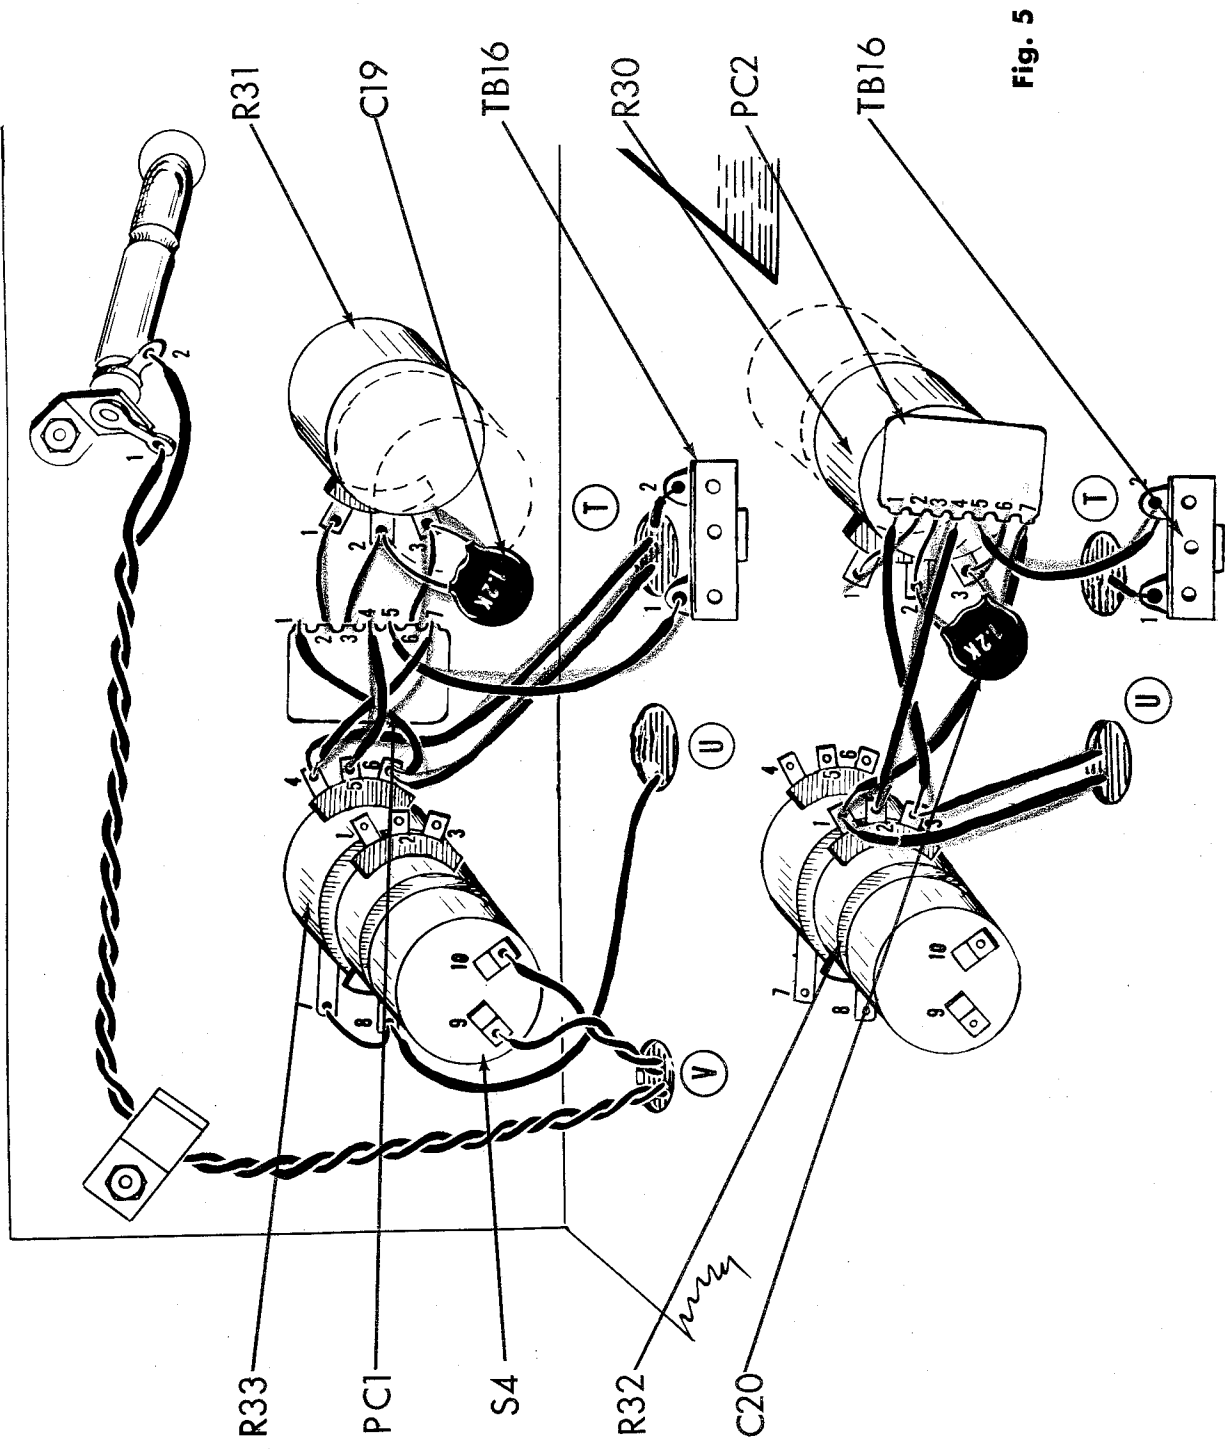

Fig. 5
1. (✓) Fig. 5. Strip the outer insulation back 1/2" on one end of a 8" piece of single conductor shielded cable. Twist the shield strands together and cut off. Strip the inner insulation back 1/4". Connect this end to R33-4 (C). On the other end of the same piece of cable, strip the outer insulation back 3/4". Twist the shield strands together. Strip the inner insulation back 1/4". Push this end of the cable through hole "T" to the bottom of the chassis.
2. (✓) Fig. 5. Connect one end of a 7" piece of brown wire to R33-6 (C). Push the other end through hole "T".
3. (✓) Fig. 5. On the printed circuit plate, PC1, cut leads #2, #3 and #6 to 1/2". Cut leads #1, #5 and #7 to 2". Cut lead #4 to 1 1/2". Connect lead #6 to R31-3 (C), lead #3 to R31-2 (C) and lead #2 to R31-1 (S1). Cover leads #1 and #7 each with a 1 3/4" piece of spaghetti. Connect lead #1 to R33-6 (S2) and lead #7 to R33-4 (S2). Cover lead #4 with a 1 1/4" piece of spaghetti and connect to R33-5 (S1). Cover lead #5 with a 1 3/4" piece of spaghetti and connect to TB16-1 (C).
4. (✓) Fig. 5. Cut both leads on a .0012 mfd (1.2K or 1200mmf) disc capacitor, C19, to 1/2". Connect from R31-2 (S2) to R31-3 (S2).
5. (✓) Fig. 5. Connect one end of a 5 1/2" piece of green wire to TB16-2 (C) Push the other end through hole "T" to the bottom of the chassis.
6. (✓) Fig. 5. Connect one end of a 10" piece of grey wire to the switch S4-9 (S1) which is mounted on the rear of the dual treble control potentiometers. Connect one end of a 14" piece of black wire to S4-10 (S1). Twist the two leads together and push the unsoldered end through hole "Y" to the bottom of the chassis.
7. (✓) Fig. 5. Cut the leads #2, #3 and #6 on printed circuit plate PC2, to 1/2". On the same printed circuit plate PC2, cut leads #1 and #7 to 2 1/4", lead #5 to 1 1/4" and lead #4 to 1 3/4". Connect lead #6 to R30-3 (C), lead #3 to R30-2 (C) and lead #2 to R30-1 (S1). Cover leads #1 and #7 each with a 2" piece of spaghetti. Connect lead #7 to R32-1 (C) and lead #1 to R32-3 (C). Cover lead #4 with a 1 1/2" piece of spaghetti and connect to R32-2 (S1). Cover lead #5 with a 1" piece of spaghetti and connect to TB16-2 (S2).
8. (✓) Fig. 5. Cut both leads on a .0012 mfd (1.2K or 1200mmf) disc capacitor, C20, to 1/2". Connect from R30-3 (S2) to R30-2 (S2).
9. (✓) Fig. 5. Connect one end of an 8" piece of grey wire to TB16-1 (S2). Push the other end through hole "T" to the bottom of the chassis.
10. (✓) Fig. 5. Connect one end of a 4" piece of yellow wire to R32-3 (S2). Push the other end through hole "U" to the bottom of the chassis.
11. (✓) Fig. 5. Strip the outer insulation back 1/2" on one end of a 5" piece of single conductor shielded cable. Twist the shield strands together and cut off. Strip the inner insulation back 1/4". Connect this end to R32-1 (S2). On the other end of the same piece of cable, strip the outer insulation back 3/4". Twist the shield strands together. Strip the inner insulation back 1/4". Push this end of the cable through hole "U" to the bottom of the chassis.